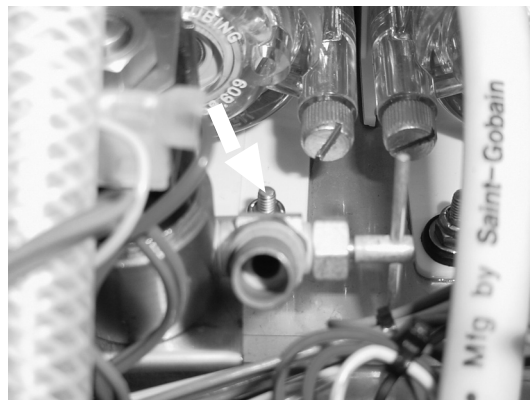

FIG 8 Chilled Water Flow Valve P3487
7. Adjust the Chilled Water Flow Valve Fig 8, clockwise to decrease flow rate; counterclockwise to increase flow rate.